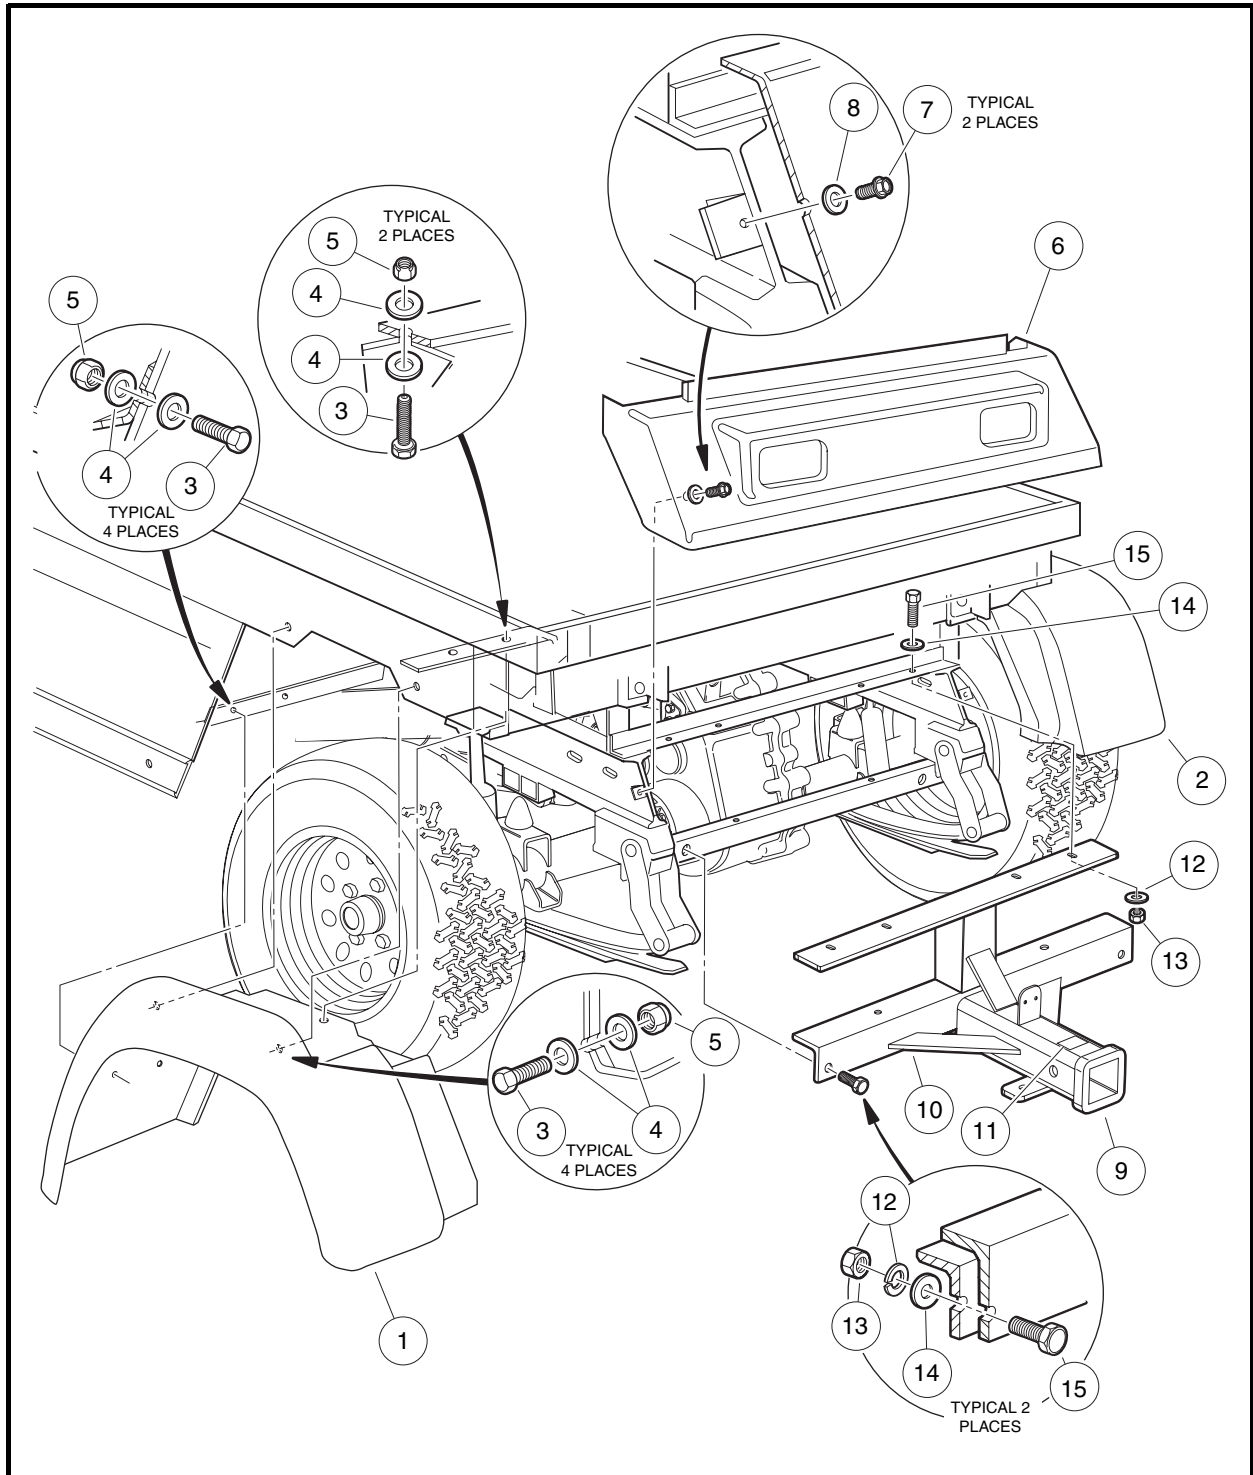

Figure 4-7 Rear Fender, Tailskirt, and Hitch – with MC012C-AS00 Transaxle
1. Remove one 1/4-20 nylon locknut (5), fender washers (4) and 1/4-20 x 1-inch hex-head bolt (3) from the top, and underneath, of fender (1) (**Figure 4-7, Page 4-13**).
2. Remove the two 1/4-20 nylon locknuts (5), fender washers (4) and 1/4-20 x 1-inch hex-head bolts (3) from the front surface of the fender (1).
3. Remove the two 1/4-20 nylon locknuts (5), fender washers (4) and 1/4-20 x 1 inch hex-head bolts (3) attaching the fender wall (1) to the vehicle frame.
4. Remove fender (1) from the vehicle.
1. Reverse the rear fender removal process. Tighten bolts to 35 in-lb (4.0 N·m) (**Figure 4-7, Page 4-13**).
1. Remove the two thread-forming screws (7) and flat washers (8) from the tailskirt (6) and slide tailskirt from under the back edge of the rear of the body and vehicle frame (**Figure 4-7, Page 4-13**).
2. Remove two 5/16-18 hex nuts (13), lockwashers (12), flat washers (14) and 5/16-18 x 1-inch bolts (15) from the top of hitch (10) brace (**Figure 4-7, Page 4-13**).
3. Remove two 5/16-18 hex nuts (13), lockwashers (12), flat washers (11) and 5/16-18 x 1-inch bolts (18) where the hitch frame (10) mounts to the vehicle frame and remove the hitch.
1. Reverse the receiver hitch removal process and tighten bolts to 15 ft-lb (20.3 N-m) (**Figure 4-7, Page 4-13**).